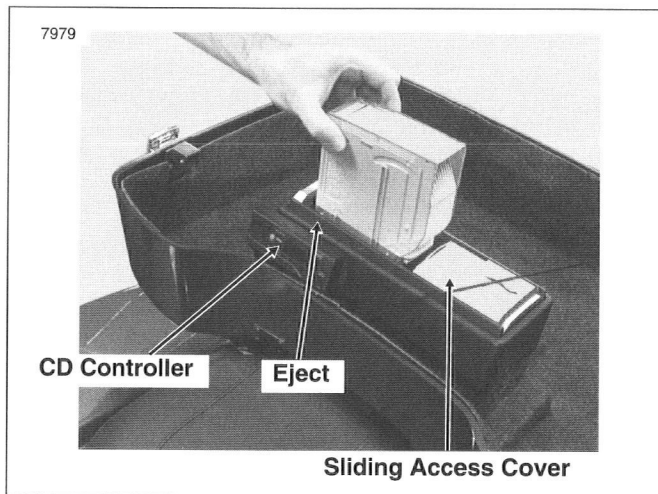

Figure 54. CD Changer In TOUR-PAK
1. See Figure 54. Slide the disc tray partly out from the magazine until it stops.
1. See Figure 54. Slide the CD Changer cover toward the left side of the motorcycle to open.
3. See Figure 54. Push the EJECT button and the magazine ejects from the loading slot. Remove the CD Magazine.
3. See Figure 54. Push the EJECT button and the magazine should eject from the loading slot. Remove the CD Magazine.